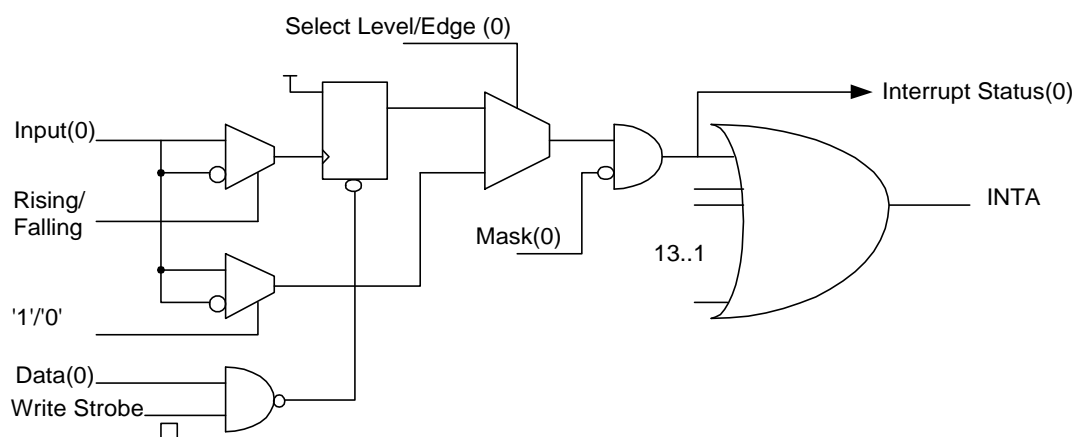

Figure 1 Programmable Interrupt Architecture
Fourteen programmable interrupts are supported. Six from the counter timer terminal count (TC) outputs and eight from the bottom eight input discretes. The interrupt architecture, using Input(0) as an example, is shown in Figure 1.